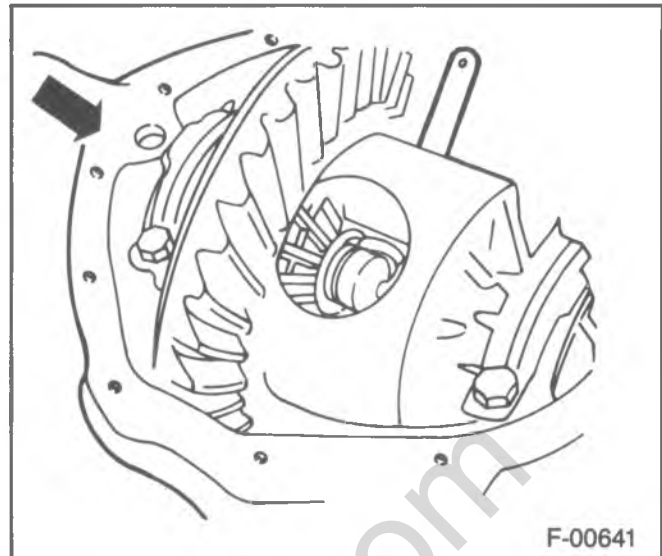
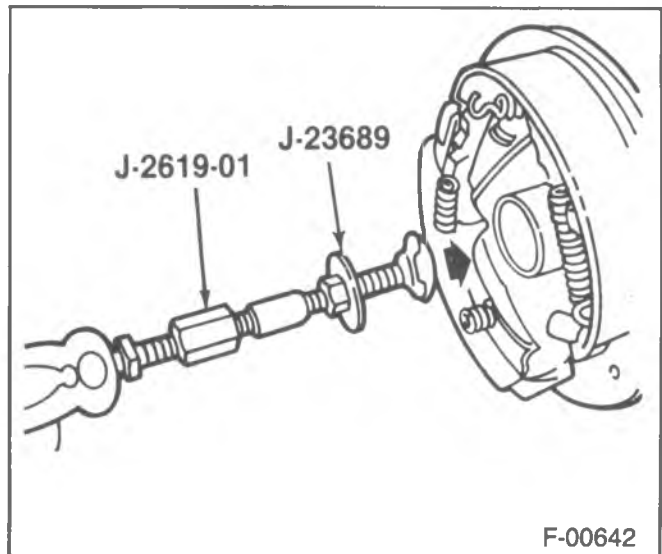

Figure 11—Pushing the Axle Shaft Inward
Figure 12—Removing the Bearing and Seal
6. Lock (13) (figure 11).
7. Axle shaft (12).
8. Seal (14) using J-23689.
9. Bearing (15).
- Insert the tool into the axle bore so that it grasps behind the bearing (15) (figure 12). Tighten the nut and washer against the face of the bearing (15).